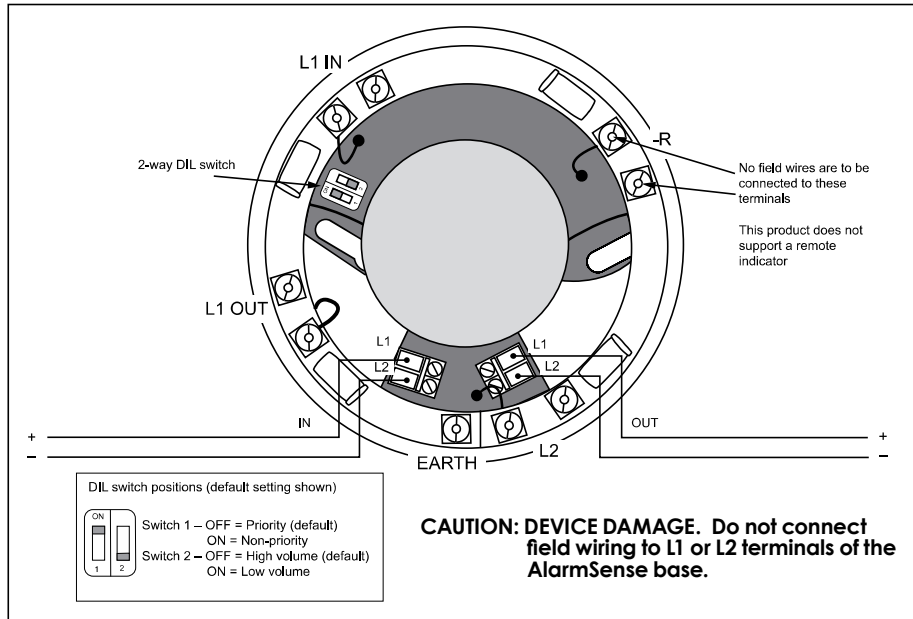

Fig 2a Combined Sounder/Sounder Visual Indicator Base
The AlarmSense Sounder Visual Indicator Base (**Fig 2a**), Part No. 45681-509, combines a sounder with a visual indicator and a detector base in one unit. The visual indicator is activated whenever the sounder is active and cannot be controlled separately.
3. The priority/non-priority feature and volume are set by means of the DIL switch, see **Fig 2a & 2b**.